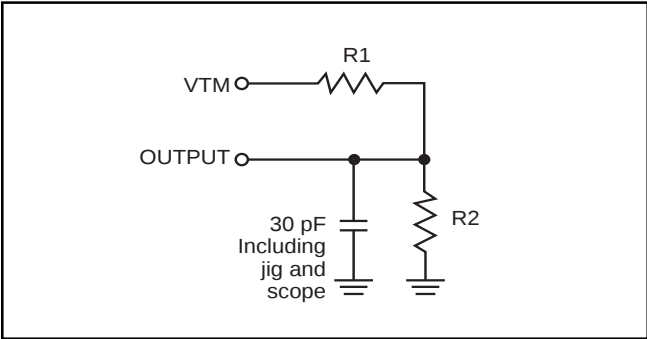

Figure 1
| Output Load                                 | See Figures 1 and 2           | See Figures 1 and 2           |
- Test conditions assume signal transition times of 5 ns or less, timing reference levels of 0.9V/1.5V, input pulse levels of 0.4 to  $V_{DD}-0.2V/V_{DD}-0.3V$  and output loading specified in Figure 1.
1. Test conditions assume signal transition times of 5 ns or less, timing reference levels of 0.9V/1.5V, input pulse levels of 0.4V to  $V_{DD}-0.2V/V_{DD}-0.3V$  and output loading specified in Figure 1.